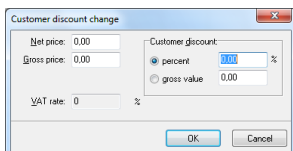

Fig. 296 – changing a discount
- **Modification of the discount for the customer** – icon (Fig. 296)